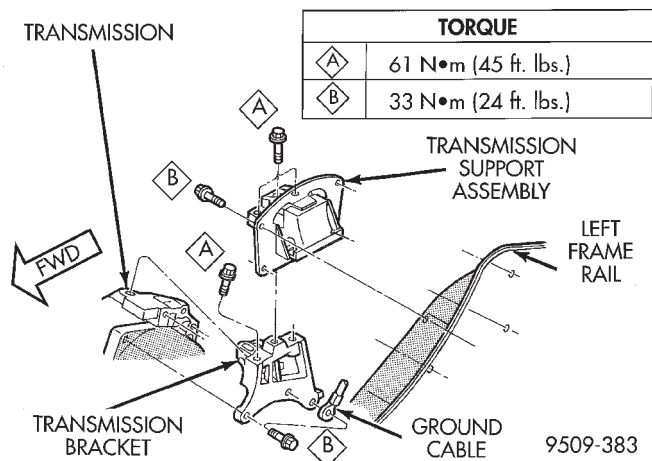
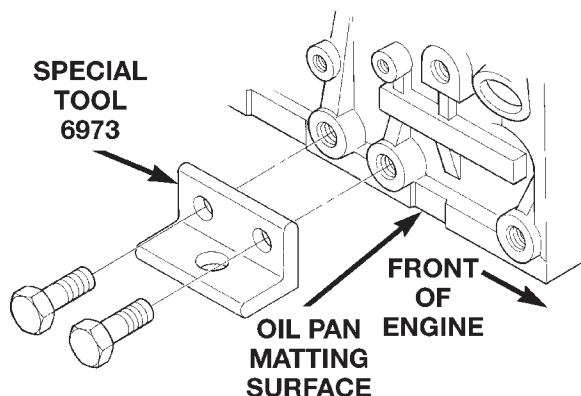

Fig. 29 Left Side Mount—Typical
Fig. 30 Bracket for Cradle Post Support
- (1) Support the transmission with a transmission jack.
- (2) Remove the three vertical bolts, from the mount to the transmission.
- (3) Remove the transmission mount fasteners and remove mount.
- (4) Reverse removal procedure for installation. Refer to (Fig. 29) for bolt tightening specifications.
- (5) Engine support assemblies adjustment, Refer to Engine Support Assembly Adjustment of this section.
- (15) Disconnect exhaust pipe from manifold.
- (16) Remove front and rear engine mount brackets from the body.
- (17) Lower vehicle. Remove air cleaner assembly.
- (18) Remove power steering pump and reservoir, Set them aside.
- (19) Remove A/C compressor.
- (20) Remove ground straps to body.
- (21) Mount the bracket (Special Tool 6973) to the right side of the cylinder block (Fig. 30). Align the front adjustable post with the hole in the bracket.